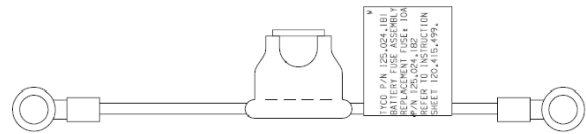

Fig. 11: Battery in-line fuse kit
- 4 Locate the Fuse Kit in Line (Fig. 11). From the kit, remove the fuse and keep this safely (you will be inserting the fuse later as part of the commissioning procedure). Connect the remaining battery terminals using the kit.